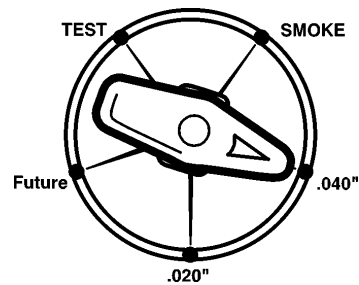

Figure 3
3. Position the selector valve on the tester control panel to the correct standard. See Figure 3.